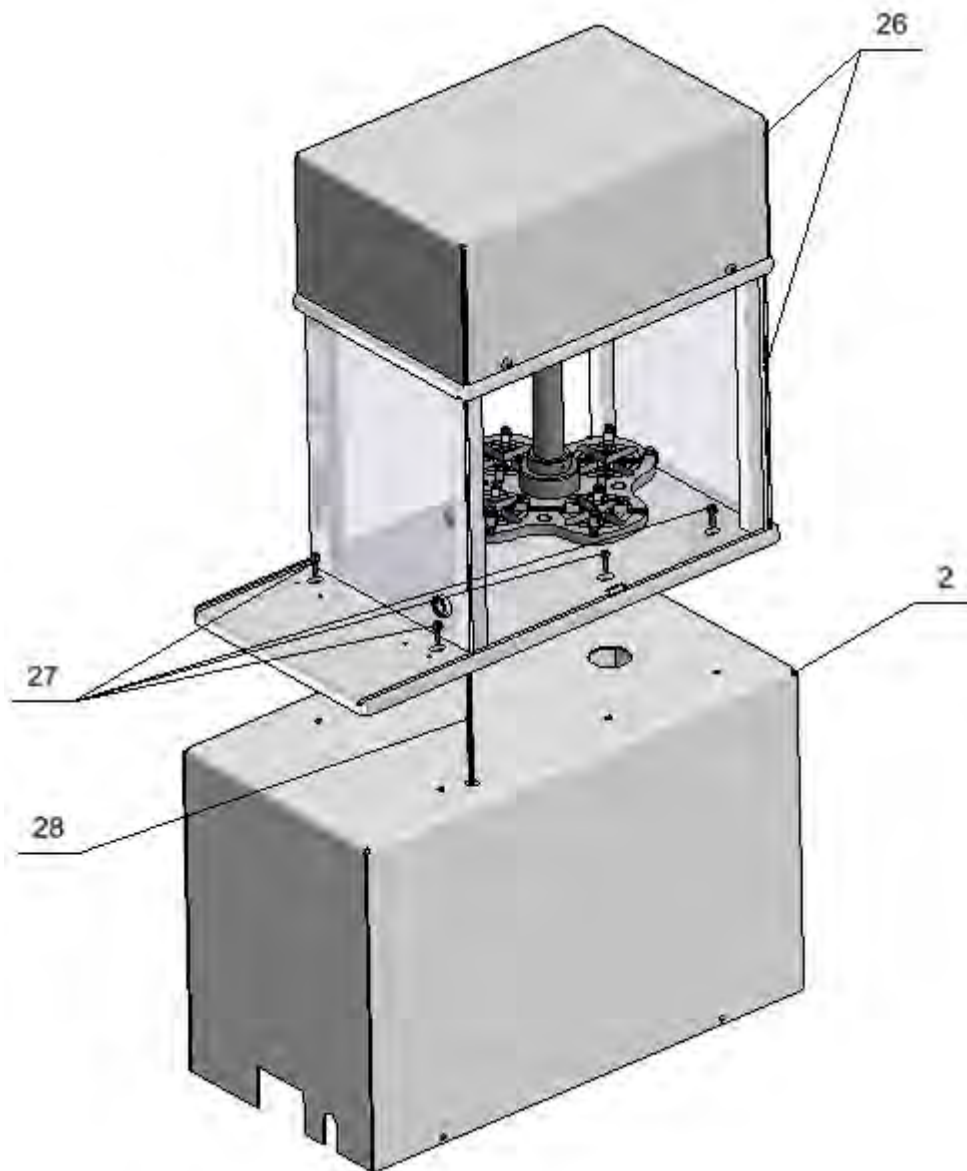

Fig. 6
23. Using six M3x14 screws fix the reel mechanism with the draft shield (26) to the housing (2), pass the wires (28) through an opening. (Fig. 6)
27.2. Loosen six M3 screws (27). (Fig.6)